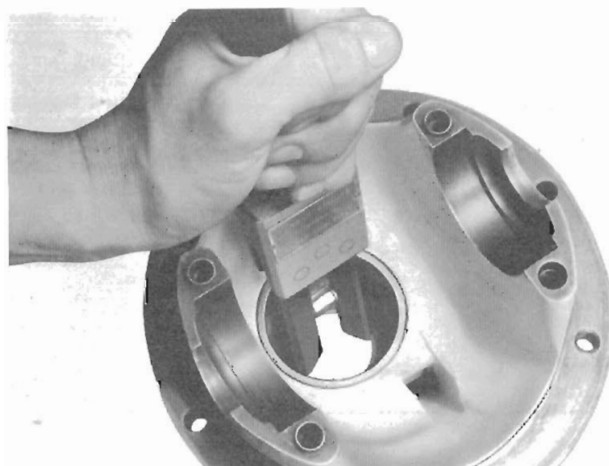

Fig. 34. Using tool No. S123A to remove pinion bearing outer rings
Drive out the pinion tail bearing (7), the oil seal (5) and the outer ring of the head bearing (16). See Fig. 34.